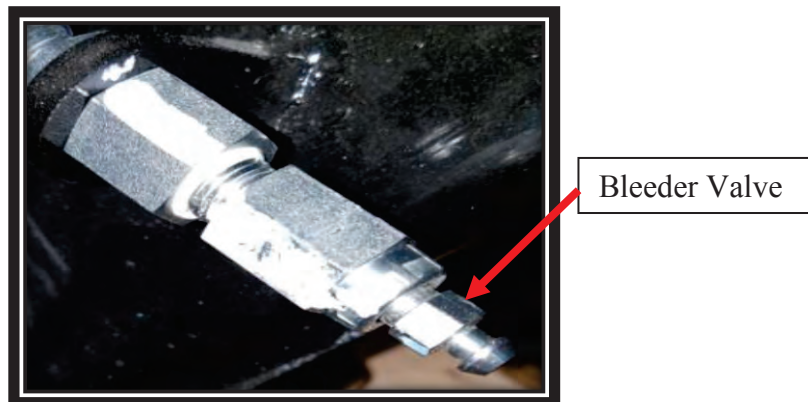

FIG. 3-2
7. Torque bleeder with 3/8" socket to 35-40 lbf-in. Refer to FIG. 3-2.